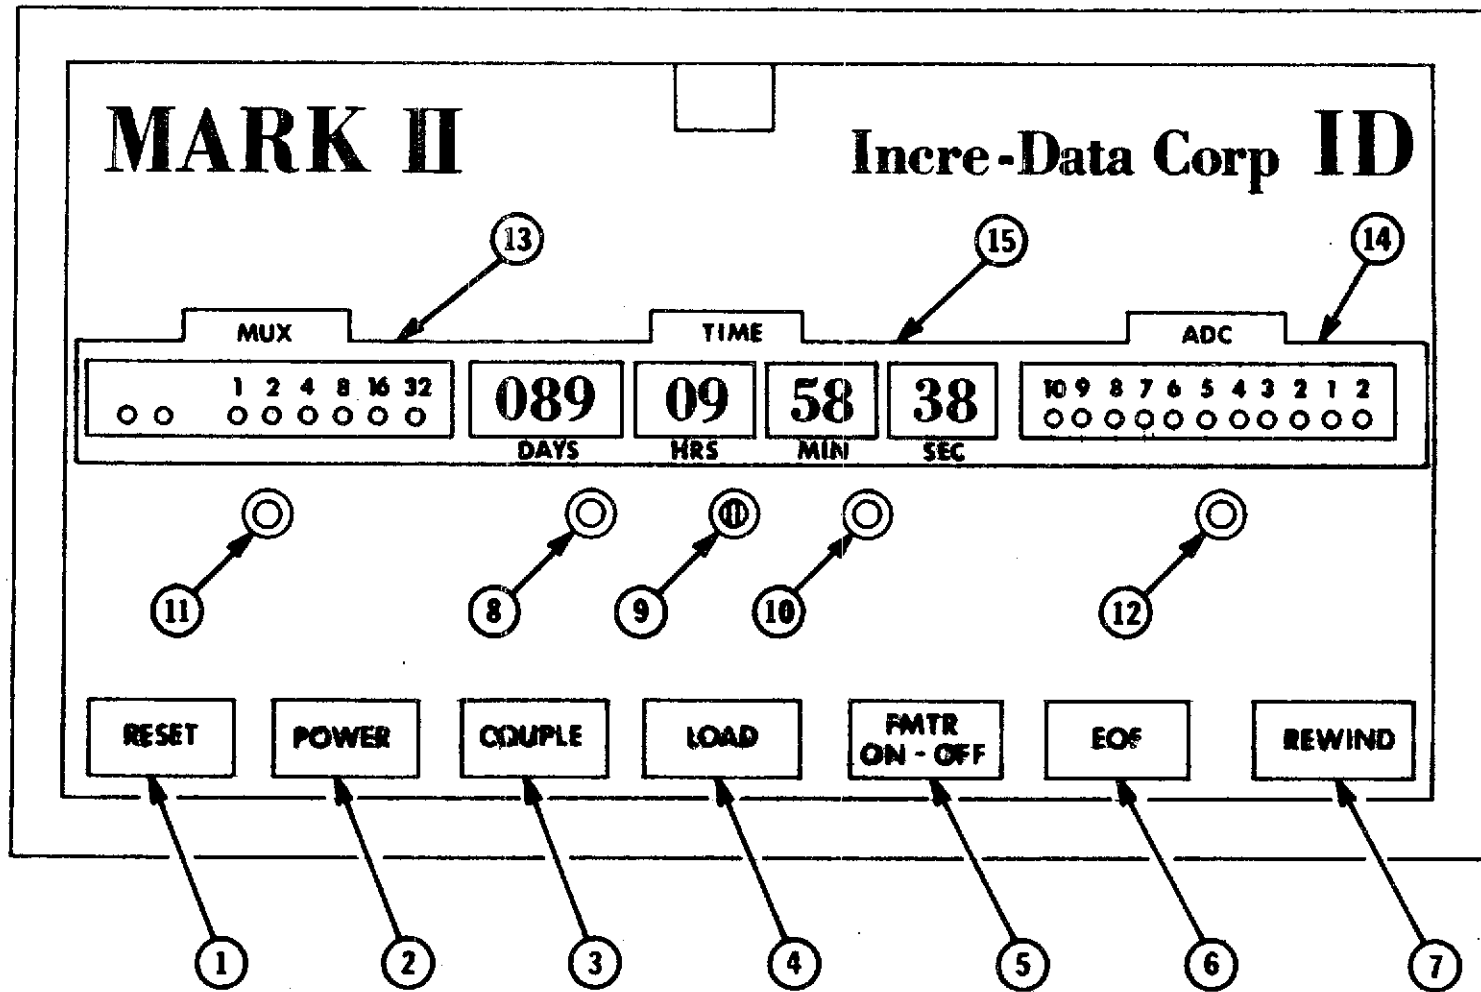

Figure 2-2. Incre-Data Mark II-A Digital Recorder
2.3 INCRE-DATA MARK II-A DIGITAL RECORDER (FIGURE 2-2)